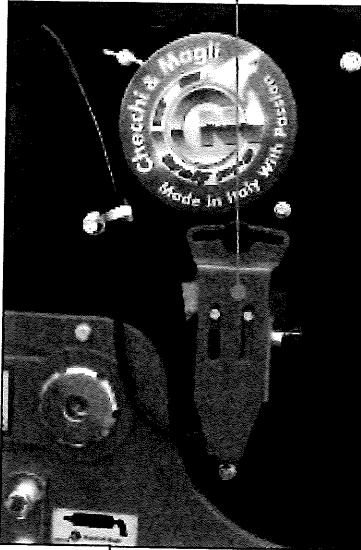
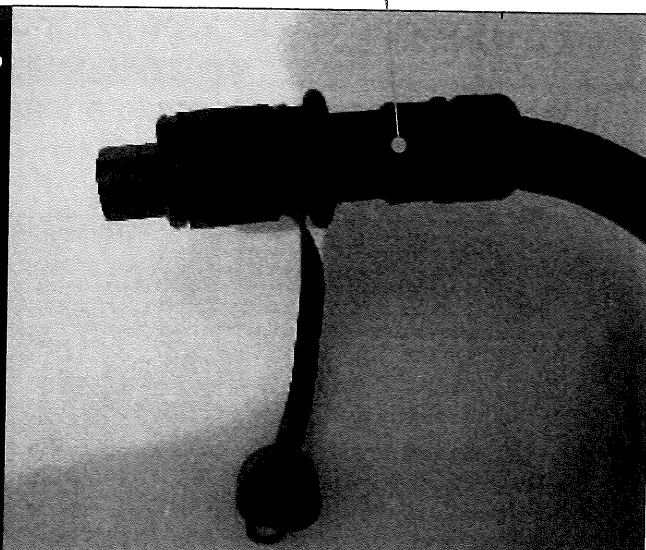

Fig.1
Fig.2
- 7- Adjust the water pressure acting on the switch 2 indicated in fig.1 (the pressure is displayed on the pressure gauge fig.2)